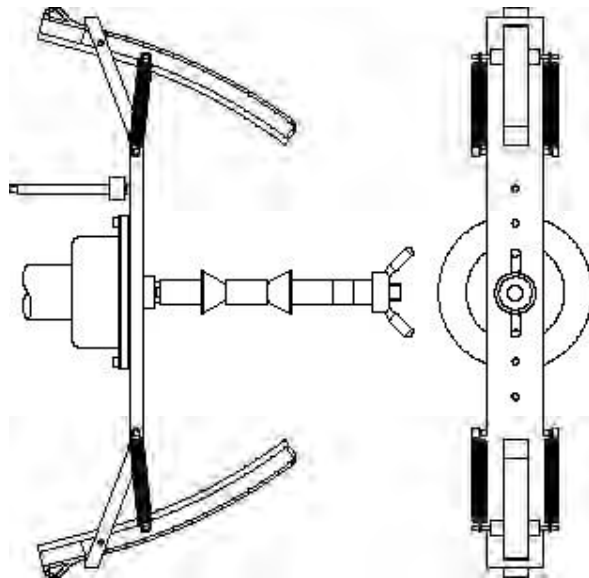

Fig. F4.2 Application of sample weight on the internal side of the motorcycle flange on the shaft (Cal2 phase)
8. At the end of the launch, the machine will display the writing . Apply the calibration weight on the internal side as shown in Figure F4.2. The calibration weight is to be applied on the hole that has the writing “CAL” marked on it;
shown in figure F4.2 and press the [P8] Start or lower the wheel guard.